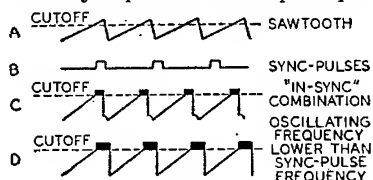

Fig. 71
across the capacitor C_2 . A portion of this sawtooth is fed back to the grid of the control tube, V_1 . The positive sync pulses are also applied to the grid of V_1 . The waveforms shown in Fig. 71 illustrate the sawtooth and sync pulses (A and B) and their proper "in-sync" combination (C). The sync pulse occurs partly during the portion of the sawtooth voltage in which the triode V_1 draws current. Any shift in sync pulse as it is superimposed
For example, waveform D in Fig. 71 illustrates a condition in which the sawtooth voltage is advanced in phase with respect to the sync-pulses. The widening of the pulse which occurs at the corner of the sawtooth waveform allows the control tube to conduct more current and, consequently, allows the capacitor C_1 to charge to a higher voltage. This increased reference voltage also appears in the grid circuit of V_2 and makes the grid more positive. The increased grid voltage then speeds up the